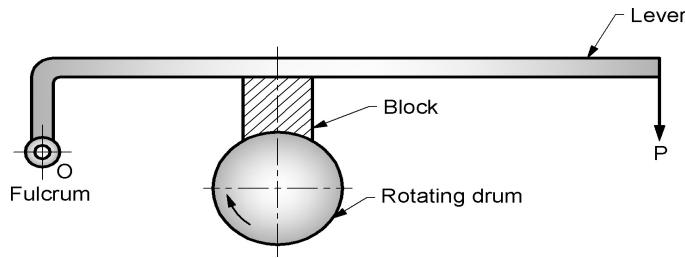

Fig. 7.11 Single block or shoe brake
- (1) Fig. 7.11 shows schematic diagram of single block brake. It consists of a block which is pressed against the rim of a rotating drum.
- (2) The block is made of softer material than rim so that block can be replaced when it gets weared out.
- (3) The block is pivoted to the lever and is lined with frictional material.
- (4) The frictional resistance between the block and rotating drum causes the braking force to act on the drum, retarding the rotation of the drum.